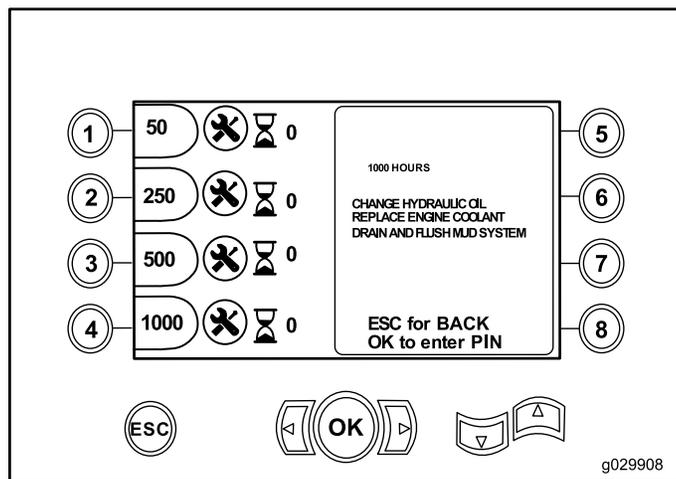

Figure 15
- Bouton 4 – 1000 heures (Figure 15)